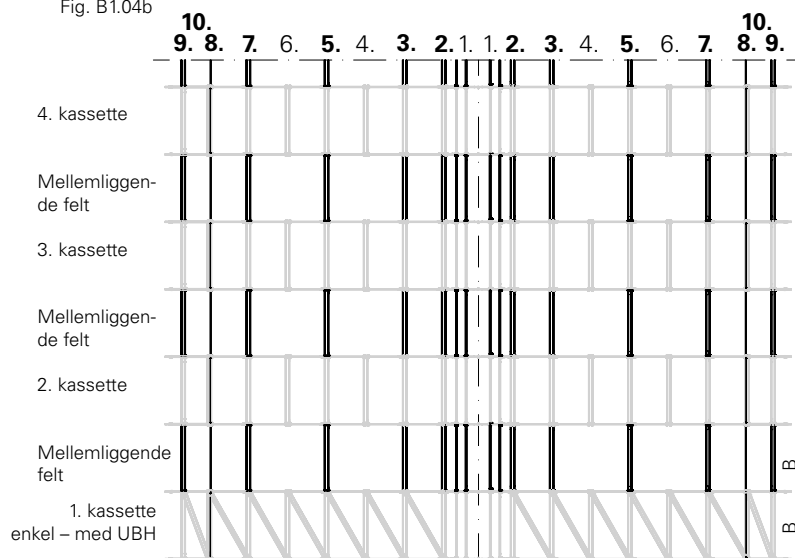

Fig. B1.05a
- 1. enkelt kassette (fig. B1.05a)